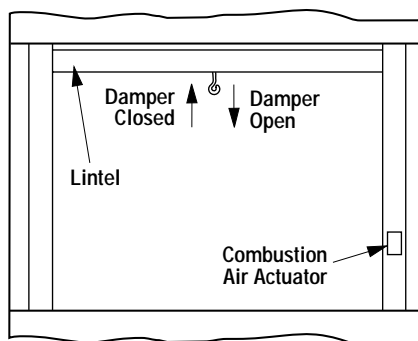

Figure 3
Check the operation of the damper. The damper is controlled through the use of a control lever located within the firebox opening at the top center just behind the firebox lintel (Figure 3). The control lever snaps into place at the extreme range of motion, up and back in the closed position. When pulled forward and down, the damper is open.
Step 1. Before continuing, check the operation of the damper, as described on page 4, (refer to Figure 3).